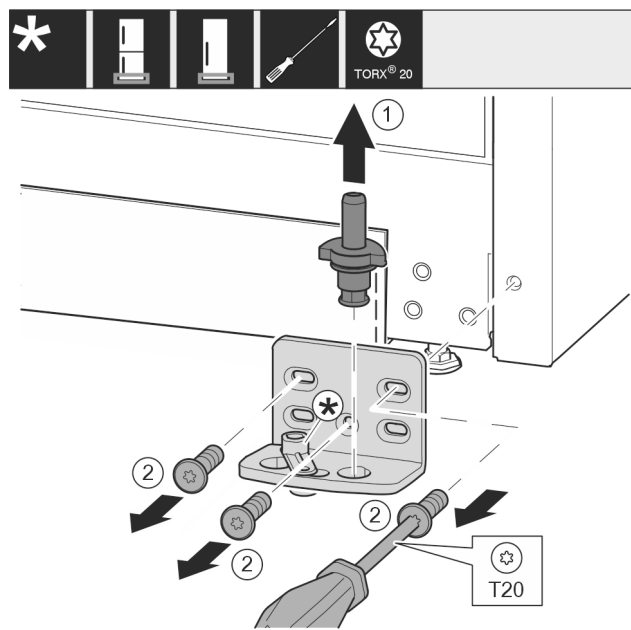

Fig. 13
- Lift the bearing pin completely upward and pull it out. Fig. 13 (1)
- Take out the screws with a T20 screwdriver and take off the bearing bracket. Fig. 13 (2)